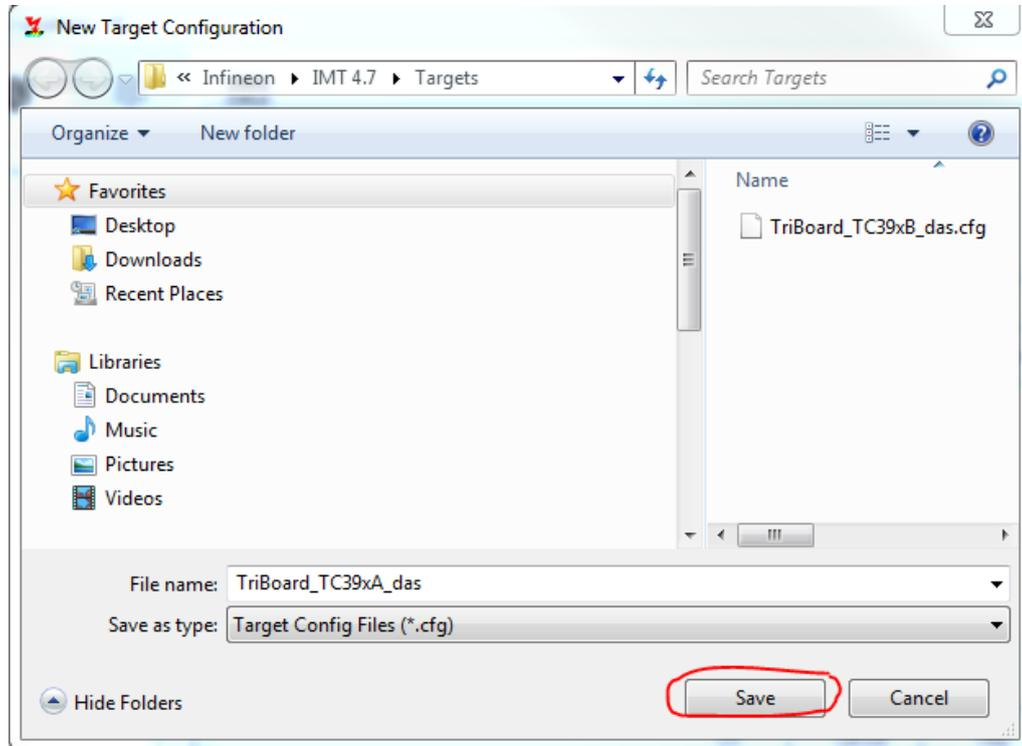

Figure 5: Saving New Configuration
7. Save configuration and close the dialogue window (Figure 5):